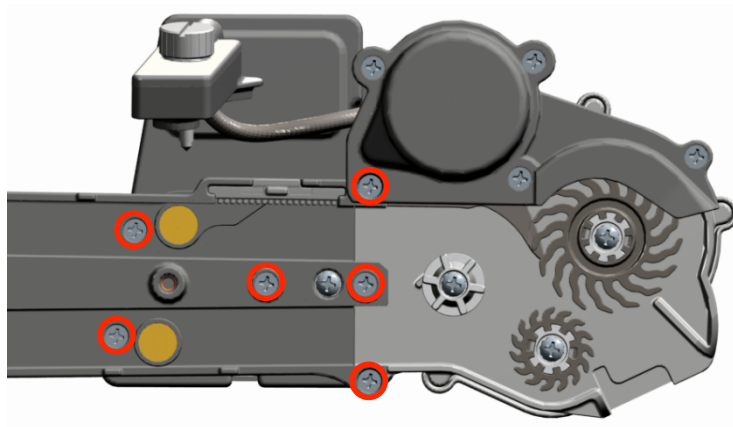

Figure 4
Using a #2 Phillips screw driver, remove the six (6) screws that secure the belt housing to the gearbox housing and SpeedTube module. Refer to figure 4.